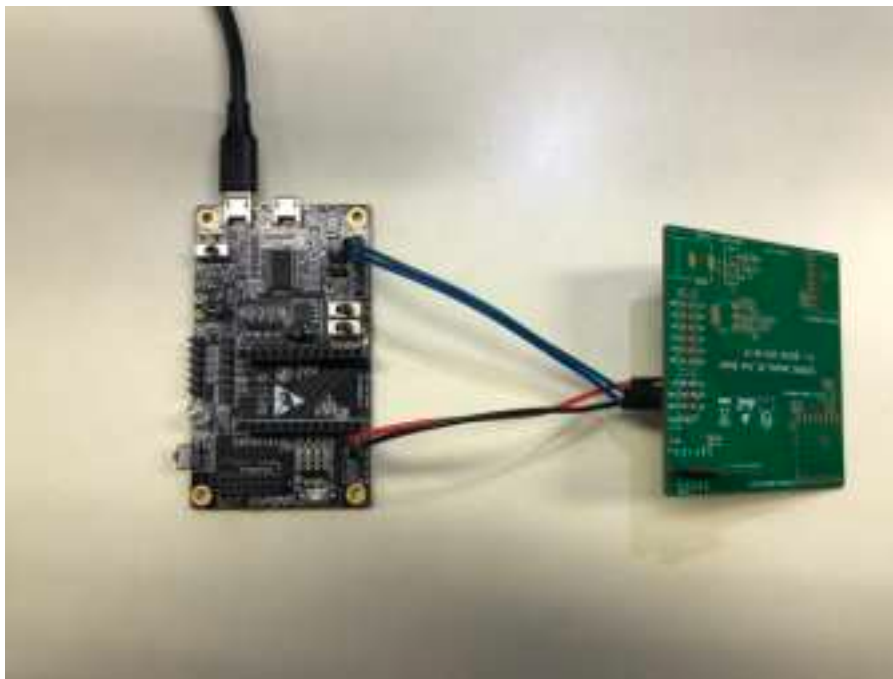

Figure 2: Hardware Connection
1. Solder the ESP8685-WROOM-03 module to the RF testing board as shown in Figure 2.